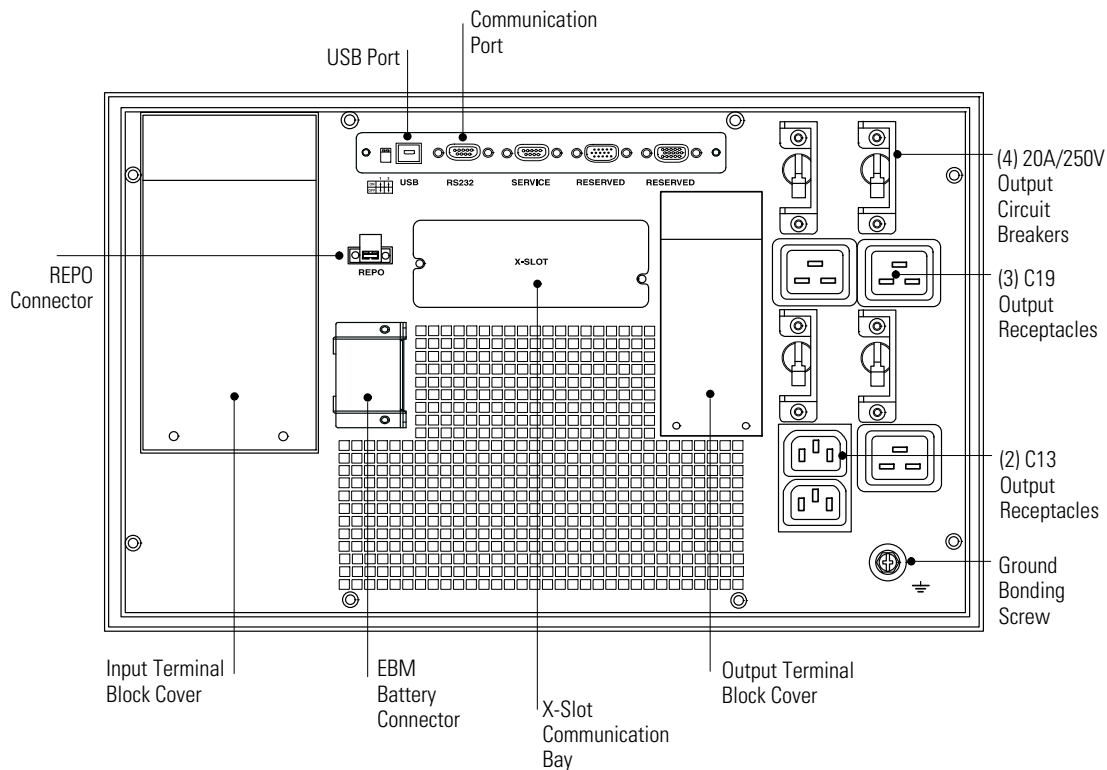

Figure 28. Hardwired UPS Rear Panel
1. Verify that all circuit breakers are in the OFF (O) position.
4. Remove the input and output terminal block covers and retain (see Figure 28).
14. If your rack has conductors for grounding or bonding of ungrounded metal parts, connect the ground cable (not included) to the ground bonding screw. See Figure 28 on page 50 for the location of the ground bonding screw.
15. Plug the equipment to be protected into the UPS output receptacles, but do not turn on the protected equipment (see Figure 28 on page 50).